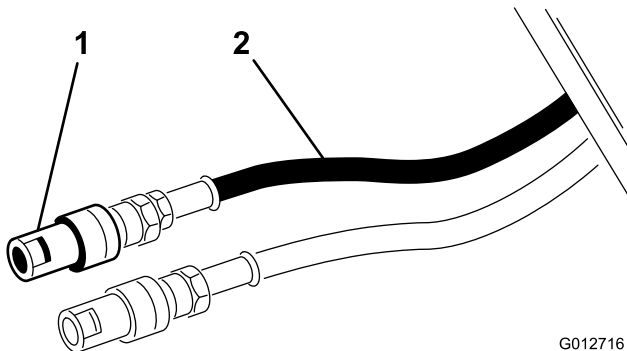

Figure 1
4. Relieve the pressure in the Transport Frame hydraulic system, by slowly cracking the connections between the hydraulic couplers and the hydraulic hoses (Figure 1). Use extreme caution, when cracking the connections, so oil is not directed toward the skin or eyes. Wrap the connections with a rag to help catch any oil that may escape.